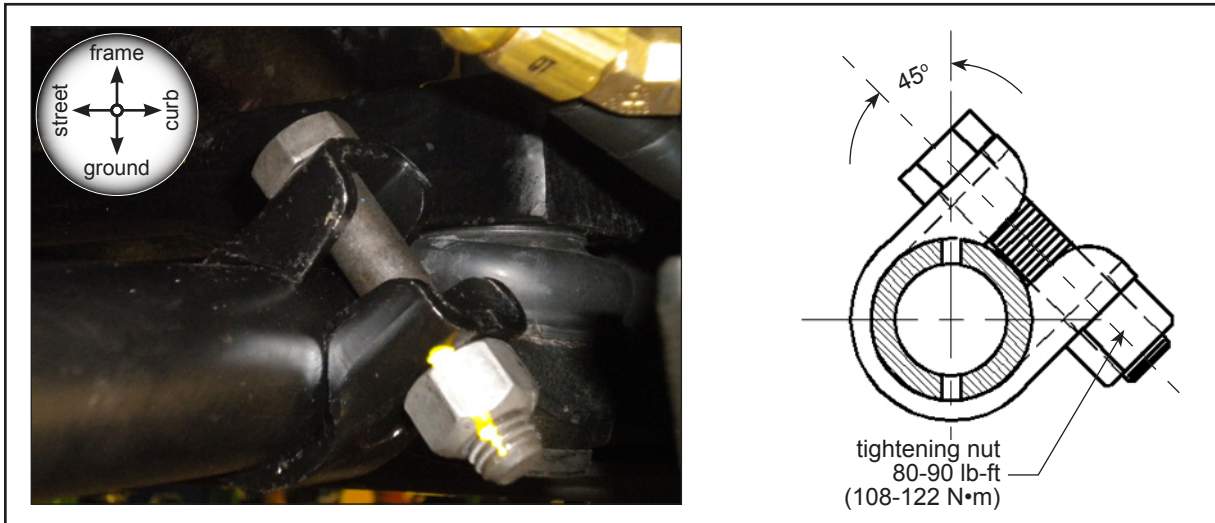

Figure 2 - Correct Installation of the Tightening Collar
- 1.3. Verify the orientation of the tightening collar. The tightening collar is correctly installed when the axis of the bolt is positioned at a 45° angle from the vertical. See Figure 2.
- 1.6. If the collar is not at 45°, loosen the nut and turn the collar around the rod until the bolt axis is correctly aligned. See Figure 2.
- 1.7. Torque the nut to 80-90 lb-ft (108-122 N·m). See Figure 2.